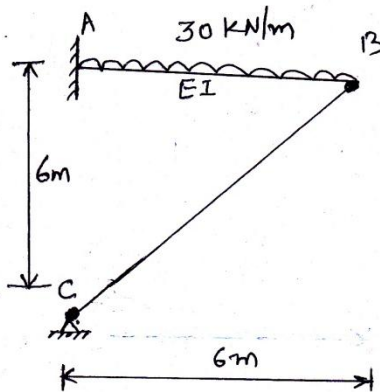

Figure 3
- (b) Construct joint stiffness matrix for a composite structure as shown in Figure 3. AB is beam member and BC is plane truss member. A , E and I values are as mentioned in the Instructions. **07**